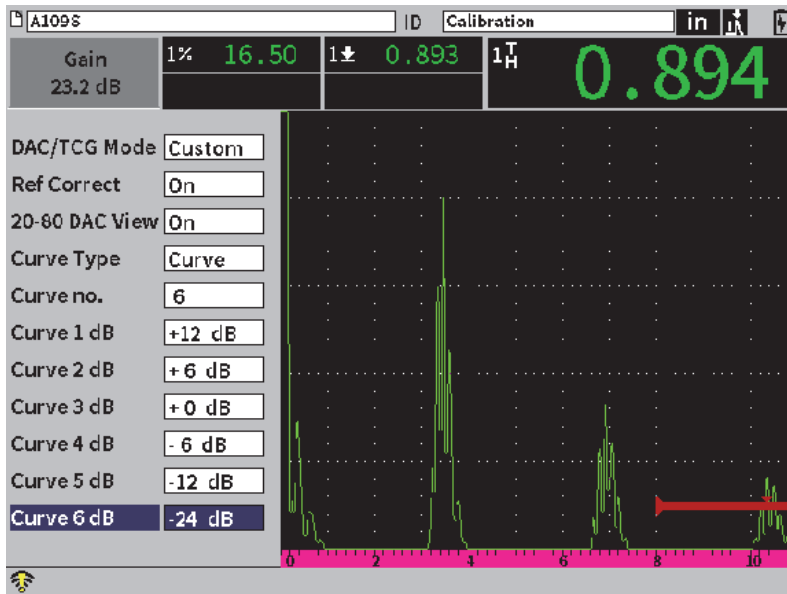

Figure 11-17 Custom DAC setup
4. Select the **Curve no.** to be used in addition to the main curve (see Figure 11-17 on page 191).